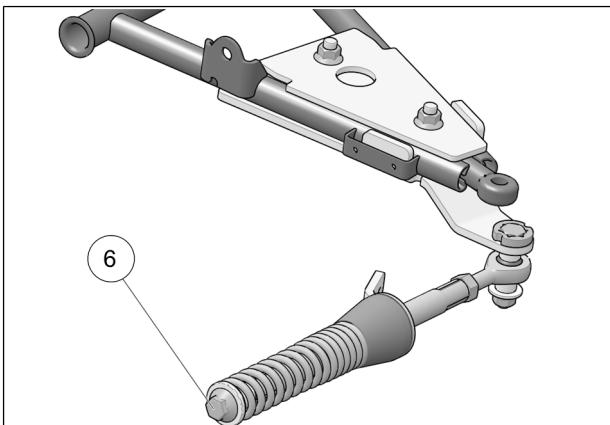

Fig. 25
- Verify that spring assembly bolt (6) is tightened to the recommended torque specification: 75 N•m [55 lb•ft]. Refer to Fig. 25